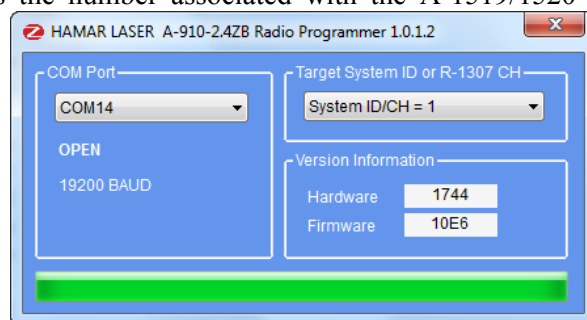

Figure 27 – A-910 Utility showing the COM Port, System ID and Channel settings
2. Start the A-910 Utility Software. The software should display the COM port assigned to the Zigbee Dongle (see Figure 27). If the utility does not automatically detect the COM port, it must be manually selected (see **Manually Selecting a COM Port** on Page 24).
6. Note the COM Port listed and select that COM Port in the A-910 Zigbee Utility software using the drop-down arrow (see Figure 27).